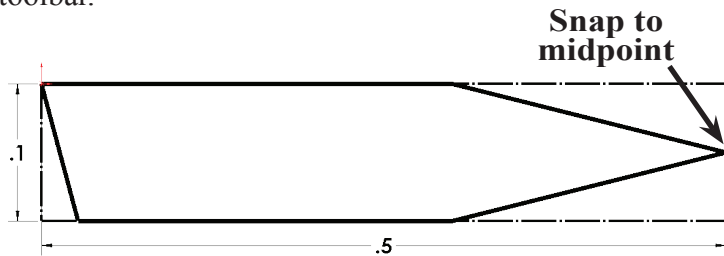

Fig. 4
Step 1. Click **Line**  (L) on the Sketch toolbar.
Step 2. Draw lines in **Fig. 4**. Draw the bottom end of left side outside the construction rectangle. Snap the lines to midpoint on right side.